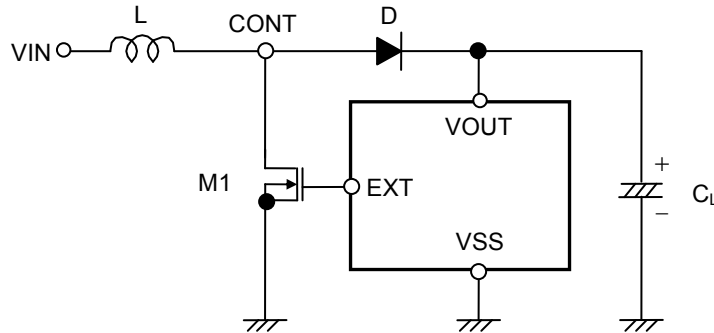

Figure 14 Step-Up Switching Regulator Circuit for Basic Equation
The following are the basic equations [(1) through (7)] of the step-up switching regulator. (Refer to **Figure 14**.)